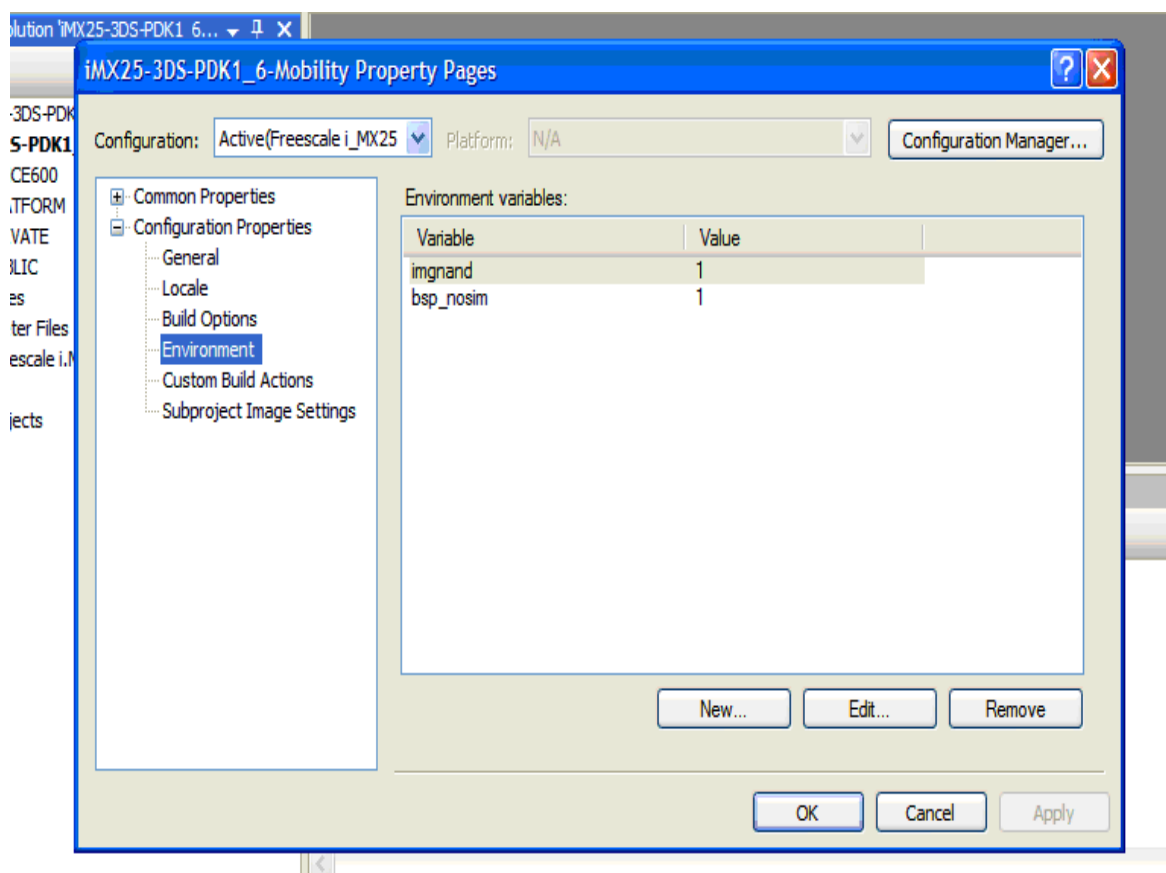

Figure 2. Adding Environment Variable to the Project
- a) On platform builder, go to Project > (Project Name) Properties > Configuration Properties > Environment > New... as shown in Figure 2.
Figure 2 shows how to add an environment variable to a project.